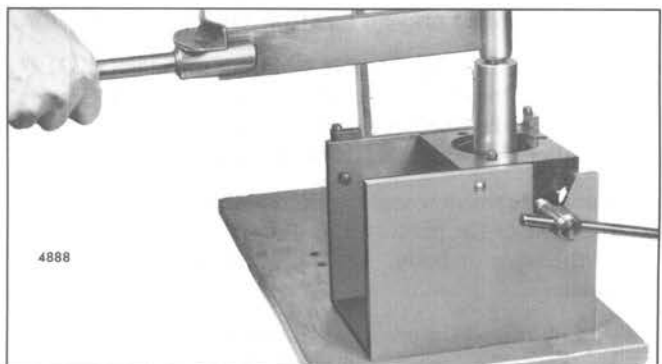

Fig. 32 - Tightening Injector Nut with Torque Wrench using Tool J 4983-01
21. Use socket J 4983-01 and a torque wrench to tighten the injector nut to 75-85 lb-ft (102-115 N•m) torque (Fig. 32).